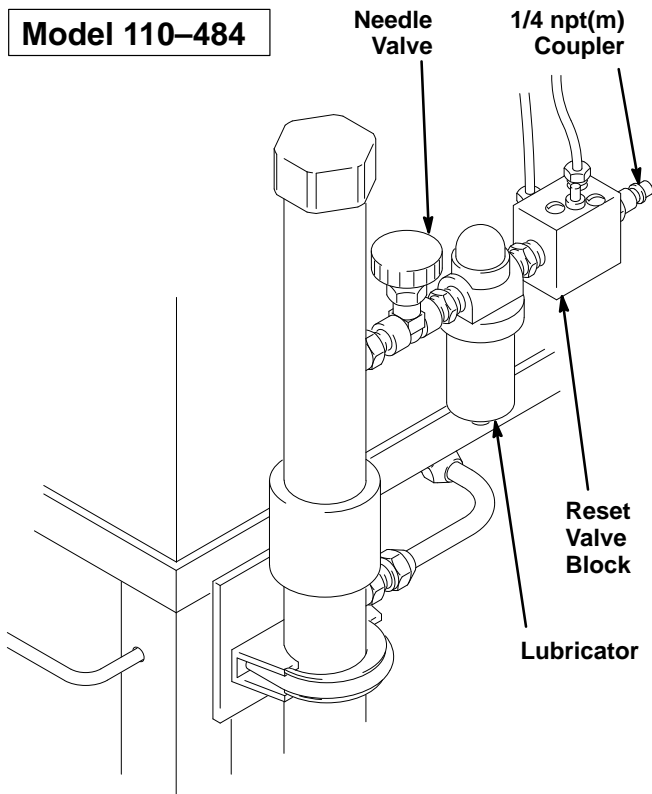

Fig 3
2. Model 110-484 includes a lubricator. See Fig 3. Fill the lubricator reservoir to the "full line" with non-detergent SAE 30W oil. The lubricator adjustment knob has been preset at the factory to provide the optimum drip rate of five drops per minute of operation; do not readjust.
4. **Model 110–484:** To adjust the pump, first close the air needle valve to the pump. Start the gun washer by depressing the button on the reset valve block. See Fig 3. Adjust the pump needle valve to achieve 120 cycles/minute.